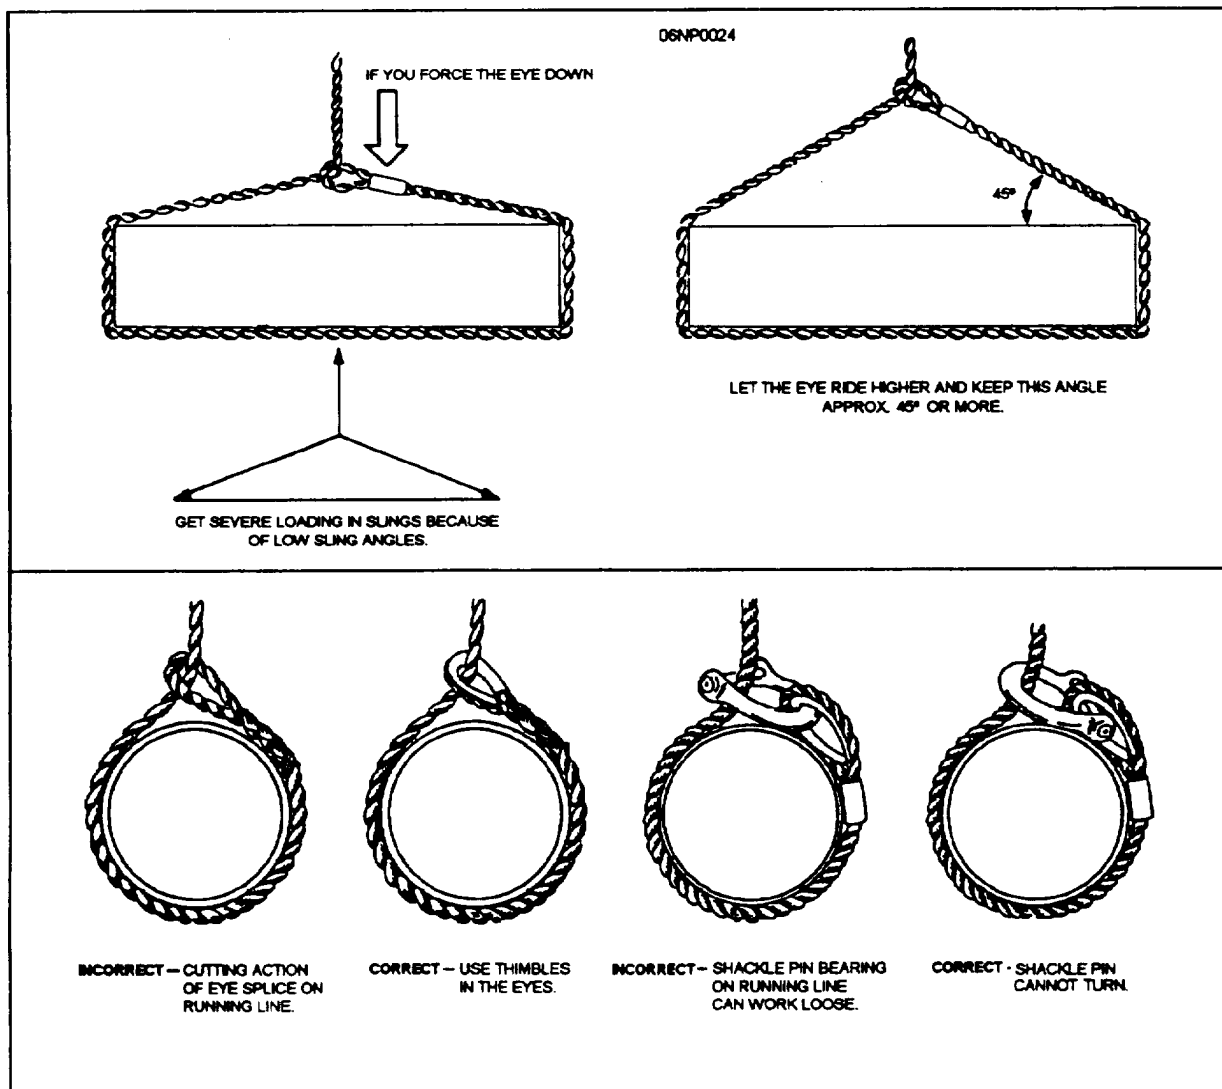

Figure 1-19.—Proper position of choker hitches for lifting.
- When using choker hitches, do not force the eye down towards the load once tension is applied. Wire rope damage is the invariable result (fig. 1-19).